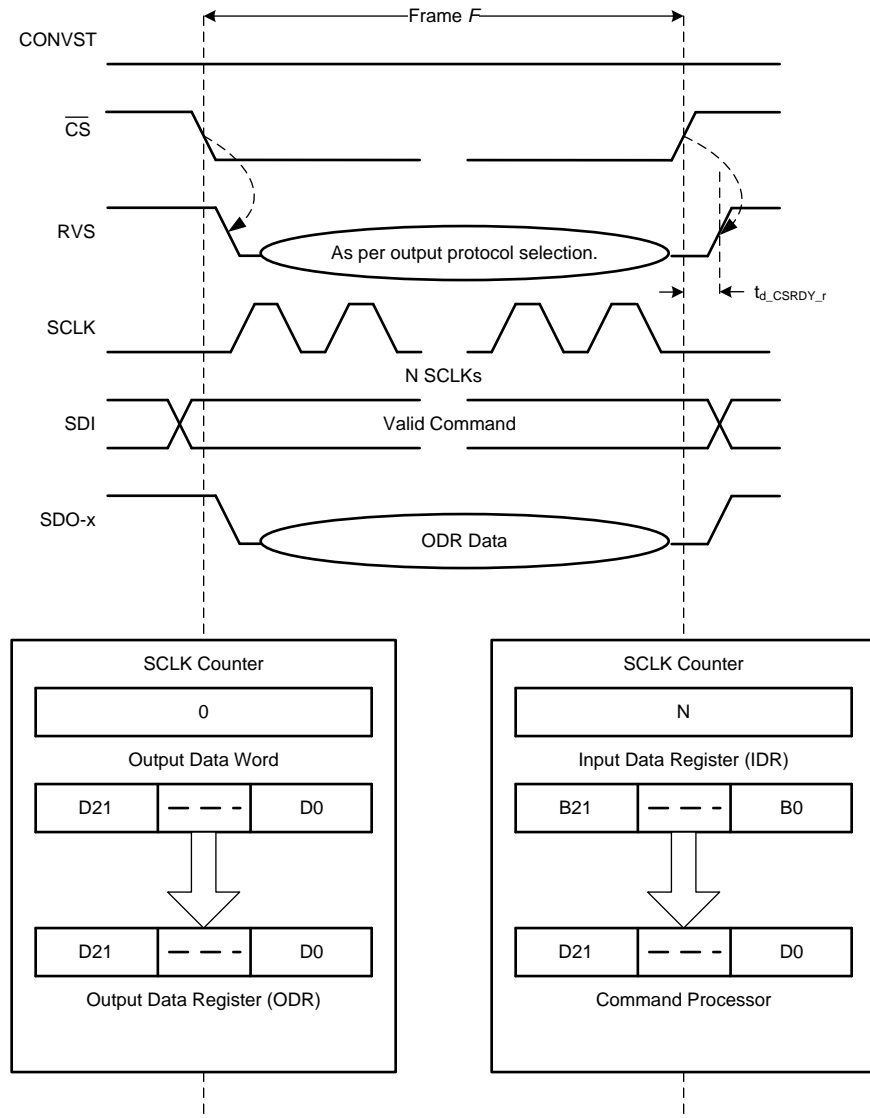

Figure 45. Data Transfer Frame
A data transfer frame between the device and the host controller is bounded between a  $\overline{\text{CS}}$  falling edge and the subsequent  $\overline{\text{CS}}$  rising edge. The host controller can initiate a data transfer frame (as shown in Figure 45) at any time irrespective of the status of the CONVST signal; however, the data read during such a data transfer frame is a function of relative timing between the CONVST and  $\overline{\text{CS}}$  signals.
- The device takes control of the data bus. As shown in Figure 45, the 22-bit contents of the output data word (see Figure 43) are loaded in to the 22-bit output data register (ODR; see Figure 39).
- As illustrated in Figure 45, the 22-bit contents of the IDR are transferred to the command processor (see Figure 39) for decoding and further action.